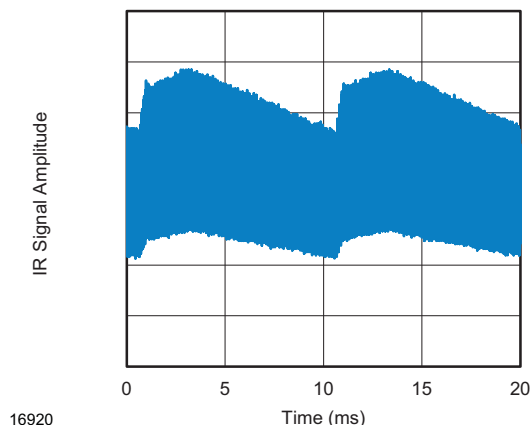

Fig. 14 - IR Disturbance from Fluorescent Lamp With Low Modulation
- Modulated IR signals from common fluorescent lamps (example of noise pattern is shown in Fig. 14 or Fig. 15)